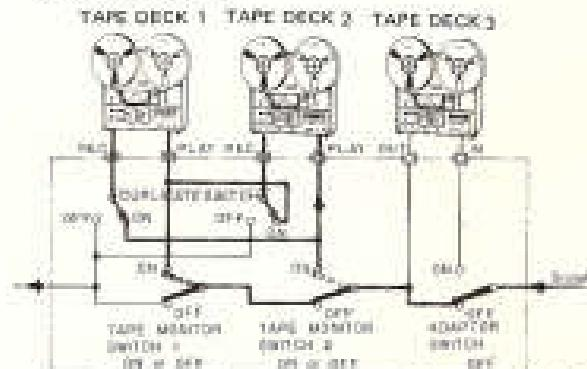

Fig. 23
- Connect the two tape decks as shown in Fig. 23.
- When recording with tape deck 1, TAPE MONITOR switch 1 should be switched ON to monitor the sound being recorded, and when recording with deck 2, TAPE MONITOR switch 2 should be switched ON for monitoring (refer again to Fig. 23).